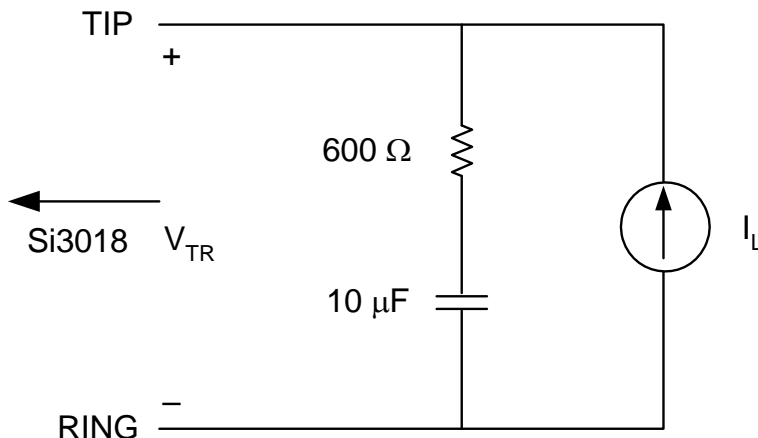

Figure 1. Test Circuit for Loop Characteristics
($V_D = 3.0$ to 3.6 V, $T_A = 0$ to 70 °C, see Figure 1)
2. Measured at TIP and RING with 600 Ω termination at 1 kHz, as shown in Figure 1.
- Measured at TIP and RING with 600 Ω termination at 1 kHz, as shown in Figure 1.